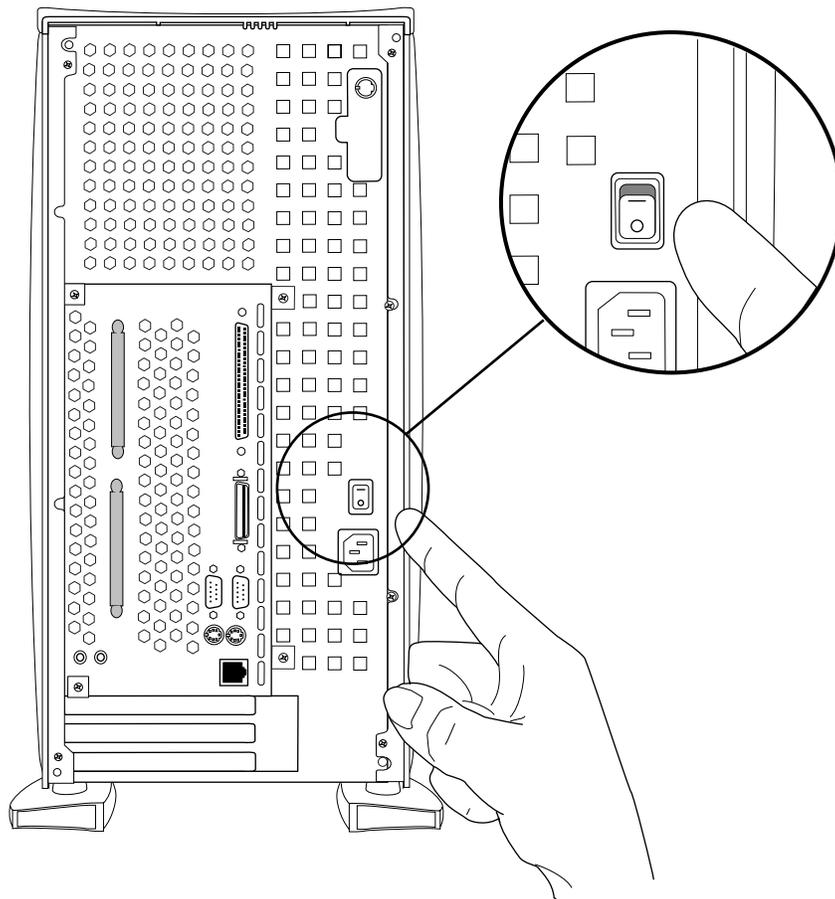

Figure 4-5 Turning Off the Master Power Switch
5. If you wish to turn off all power to the system (for example, to service the machine), turn off the master power switch at the rear of the server, as shown in Figure 4-5.